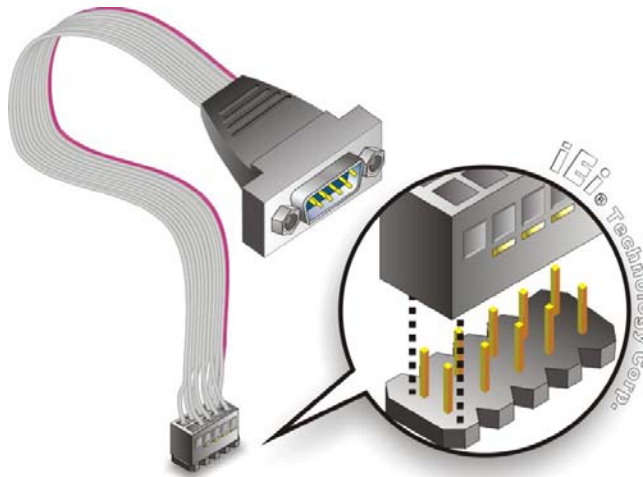

Figure 5-11: Single RS-232 Cable Installation
Step 2: Insert the cable connector. Insert the connector into the serial port box header. See Figure 5-11. A key on the front of the cable connectors ensures the connector can only be installed in one direction.